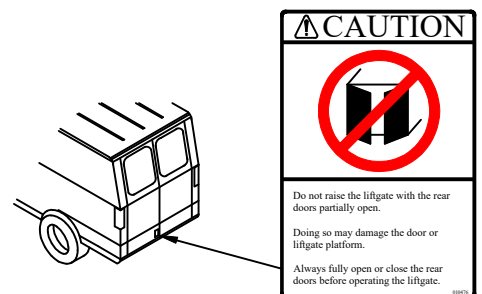

Figure 26: Caution decal location.
- 4. Drill** two (2) 13/64" holes in the platform, using the holes in the aluminum cover as a guide.
- 5. Install** two (2) 1/4-20 self-tapping screws in the drilled holes.
- 6. Install** the lower aluminum cover using four (4) 1/4-20 self-tapping screws.
- 8. Secure** the limit switch wire to the support arm and limit switch bracket using two (2) plastic zip ties. This should be done with the platform unfolded.
- 9. Adhere** decal (PN 10476) to the exterior bottom right corner of the driver side rear door (Figure 26).